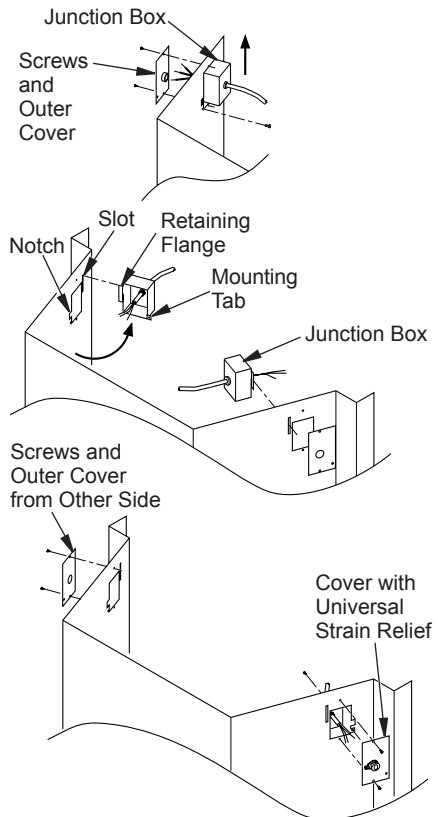

Figure 10 - Relocating Junction Box to Left
1. Remove 2 screws and outer cover on right side (see Figure 10).